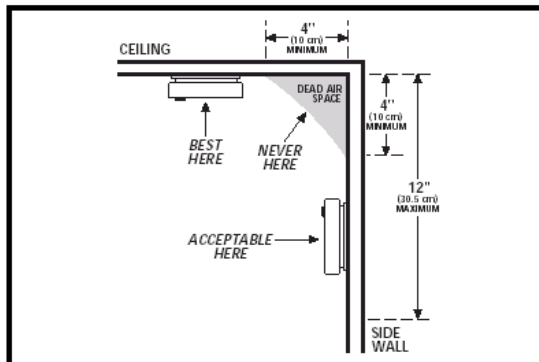
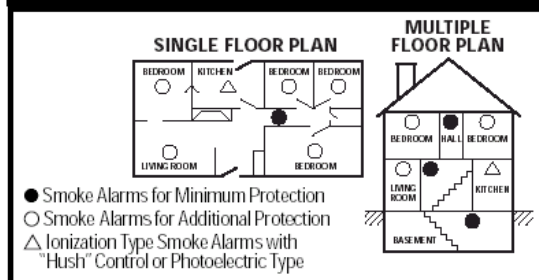

FIGURE 1
FIGURE 2
- When mounting an alarm on the ceiling, locate it at a minimum of 4" (10 cm) from the side wall (see Figure 1).
- When mounting the alarm on the wall, use an inside wall with the top edge of the alarm at a minimum of 4" (10 cm) and a maximum of 12" (30.5 cm) below the ceiling (see Figure 1).
Modern mobile homes have been designed and built to be energy efficient. Install smoke alarms as recommended above, refer to RECOMMENDED LOCATIONS and Figure 1. In older mobile homes that are not well insulated compared to present standards, extreme heat or cold can be transferred from the outside to the inside through poorly insulated walls and roof. This may create a
thermal barrier that can prevent the smoke from reaching an alarm mounted on the ceiling. In such units, install the smoke alarm on an inside wall with the top edge of the alarm at a minimum of 4" (10 cm) and a maximum of 12" (30.5 cm) below the ceiling (see Figure 1). If you are not sure about the insulation in your mobile home, or if you notice that the outer walls and ceiling are either hot or cold, install the alarm on an inside wall. For minimum protection, install at least one alarm close to the bedrooms. For additional protection, see SINGLE FLOOR PLAN in Figure 2.
- Figure 1 illustrates interconnection wiring. Improper connection will result in damage to the alarm, failure to operate, or a shock hazard.